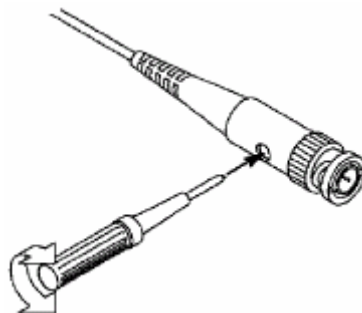

Fig. 8 Adjust Probe
2. Check the displayed waveforms and regulate the probe till a correct compensation is achieved (see Fig. 7 and Fig. 8).